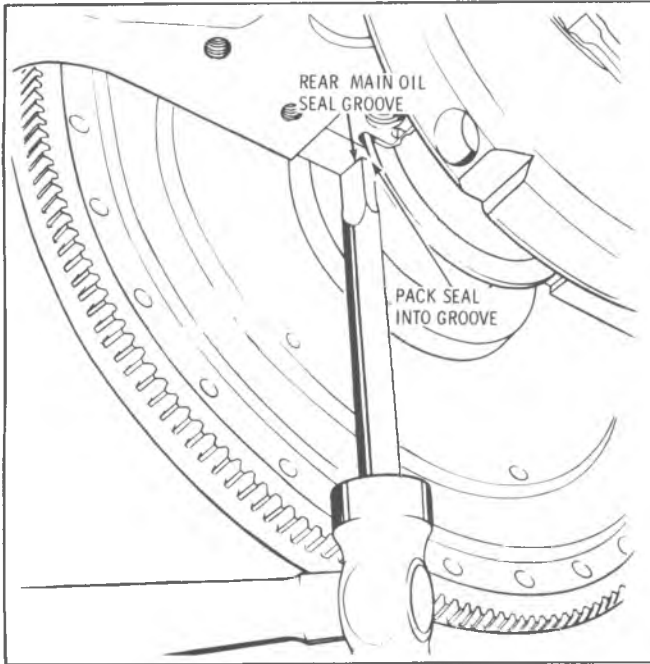

Fig. 6A6-98--Packing Oil Seal
4. Measure the amount the seal was driven up on one side; add 1/16" (1.6mm), then cut this length from the old seal removed from the main bearing cap with a single edge razor blade. Measure the amount the seal was driven up on the other side. Add 1/16" (1.6mm) and cut another length from old seal. Use main bearing cap as a holding fixture when cutting seal as shown in Fig. 6A6-99.